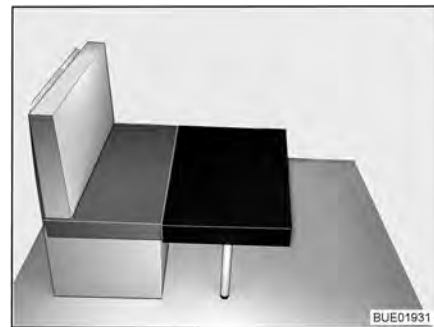

Fig. 55 Conversion (1)
- Place the small additional cushion onto the table in front of the seat cushion of the bench (refer to Fig. 55).